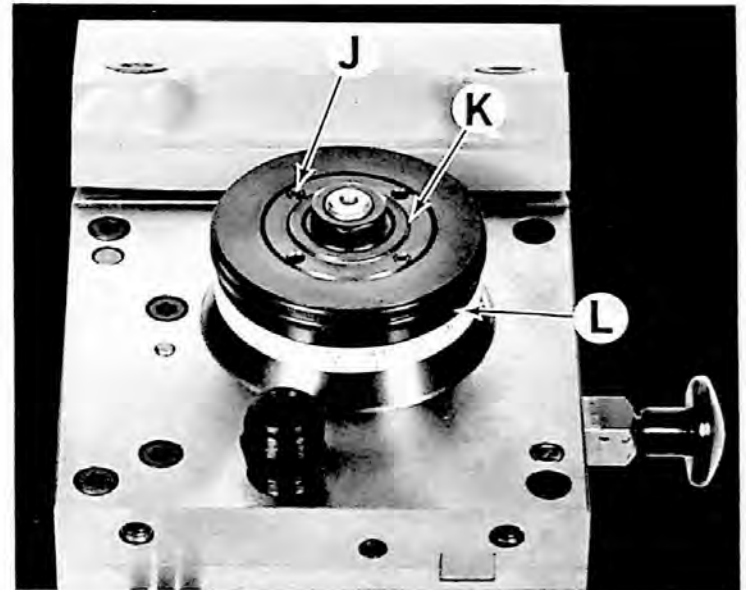

Figure 24 — Thread Depth Control Dial
6. Loosen two screws "J", Figure 24, and remove dial nut "K". Remove dial assembly "L".
15. Replace dial assembly "L", Figure 24, replace dial nut "K" and tighten two screws "J".